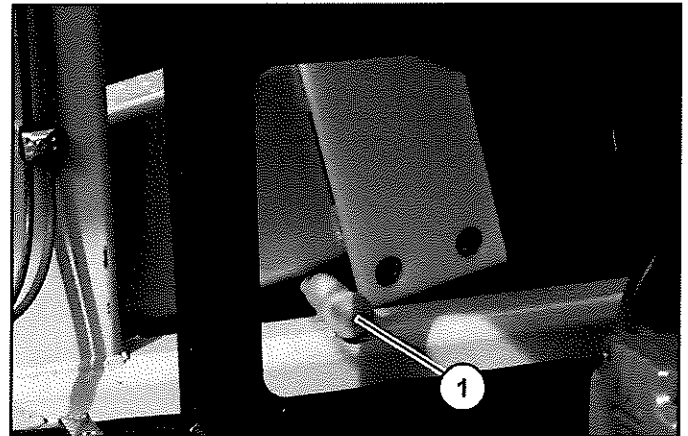

Figure 96
11. Unpin the tag axle (Item 1) (Figure 96).